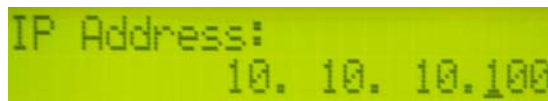

Figure 8 LCD Panel: IP Address Display
- Step 6** Press the **bottom** button once to move to **IP Address**, and then press the **select** button to select it. The IP Address appears (Figure 8).